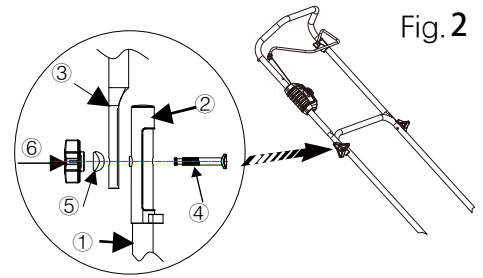

Fig.2
4. Installing upper Handle and Hardware(See Fig.2)